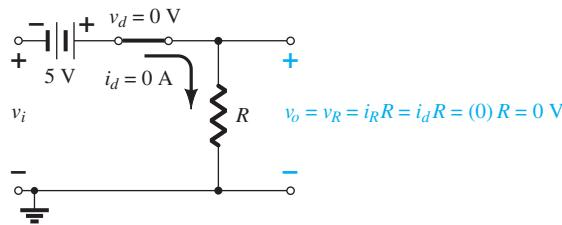

FIG. 2.75
Step 3: The transition model is substituted in Fig. 2.75, and we find that the transition from one state to the other will occur when